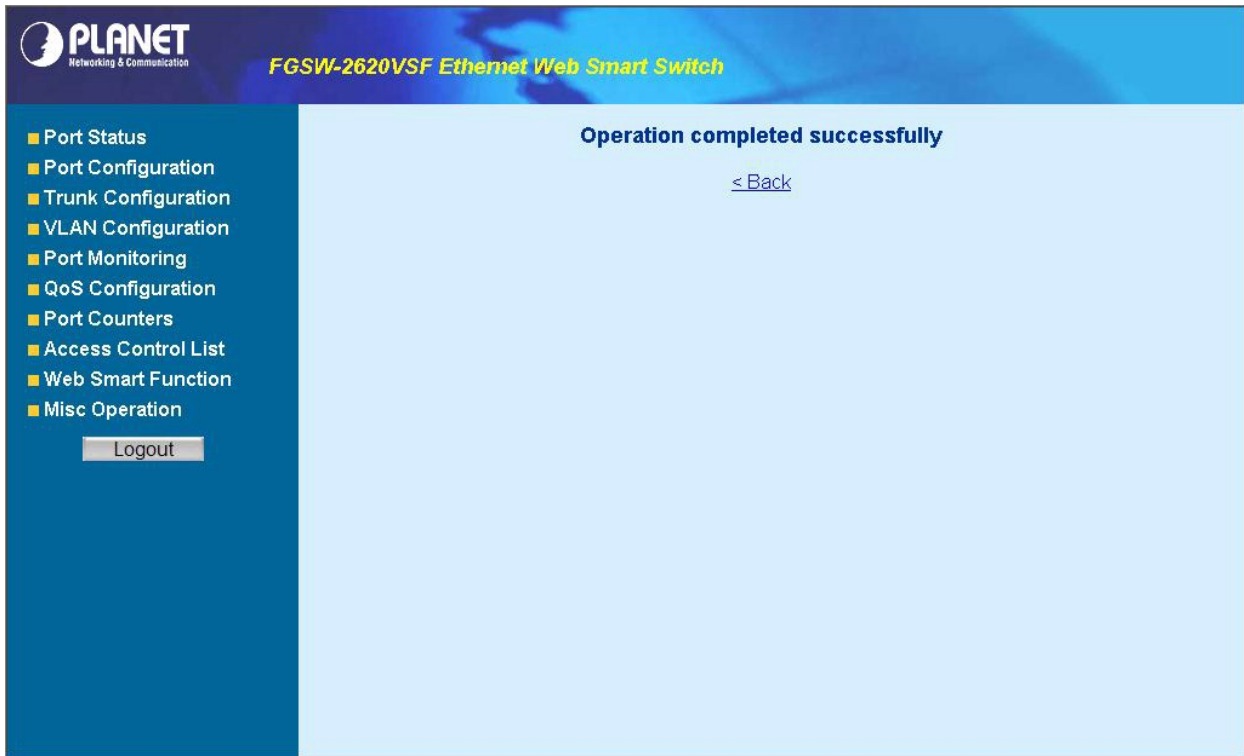

Figure 4-39 Delete 802.1Q VLAN group Web Page screen
4. Please press **“Back”** for return to VLAN configuration screen to continue VLAN configuration. The screen in Figure 4-39 & 4-40 appears.